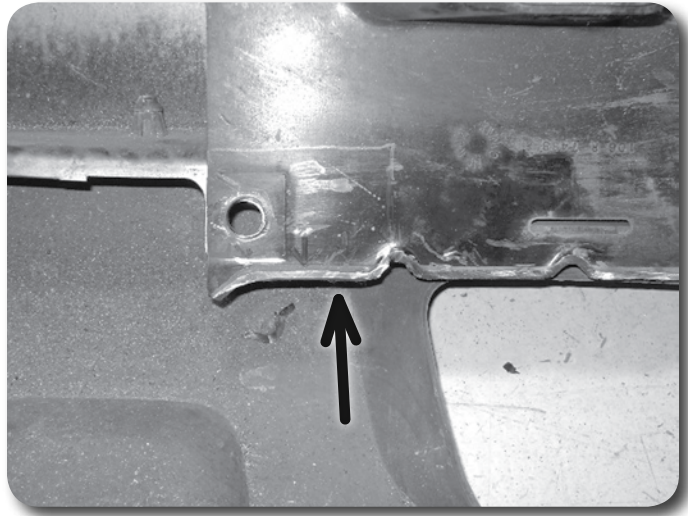

Figure 20
43. Trim the brackets off flush with the vertical bracket surface. Grind the cut edge flush with the vertical face so the new bracket will set flush. Figure 20